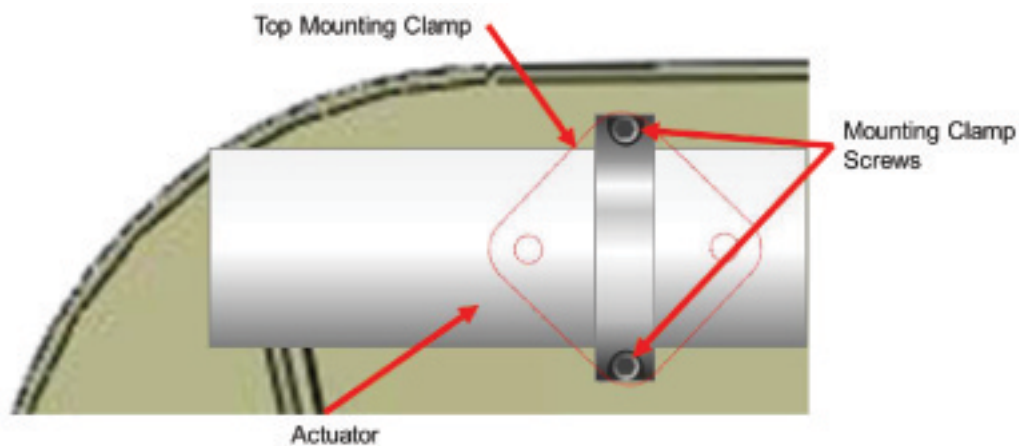

Fig.14
10. Line up and install the four mounting clamps to the hardtop using the included 5/16" - 18 bolts and tighten down with nuts (Fig.14).